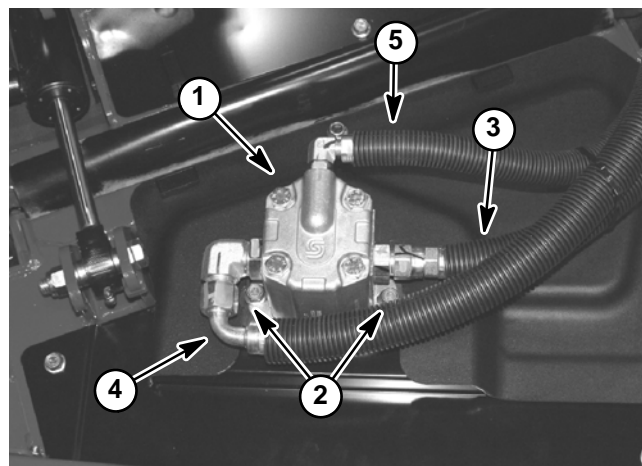

Figure 89
5. Remove two (2) flange head screws that secure hydraulic motor to motor mount (Fig. 89).
4. Secure motor to cutting deck with two (2) flange head screws (Fig. 89).